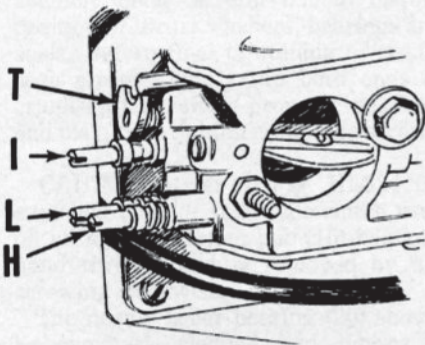

Fig. HL340—View of carburetor adjustment screws. Refer to text for adjustment.
adjustment of idle speed screw (I—Fig. HL340) is $\frac{1}{2}$ - $\frac{3}{4}$ turn clockwise after lobe on idle speed screw just contacts throttle stop lever (T). Initial adjustment of low speed mixture screw (L) is 1-1 $\frac{3}{4}$ turns open and high speed mixture screw (H) is 1-1 $\frac{1}{4}$ turns open. Install carburetor cover and start saw.